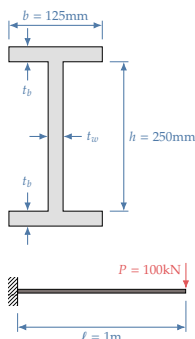

Figure 1: Cantilever beam with H section.
- 4.2 (20 pts) Consider a cantilevered beam with an H-shape cross-section composed of a web and flanges subject to a transverse load as shown in Fig. 1. The objective is to minimize the structural weight by varying the web thickness  $t_w$  and the flange thickness  $t_b$ , subject to stress constraints. The other cross-sectional parameters are fixed; the web height  $h$  is 250 mm and the flange width  $b$  is 125 mm.